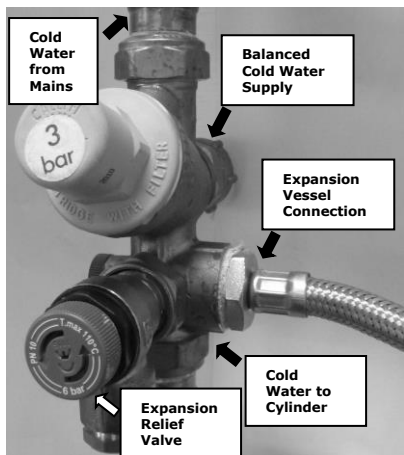

Figure 4: Detail Showing the Connection of the Expansion Vessel to the Inlet Group
**Note: The expansion vessel must be installed to the side of the expansion relief valve on the inlet group. To do this the blanking plug must be removed and the expansion vessel connected, as shown in Figure 4.**